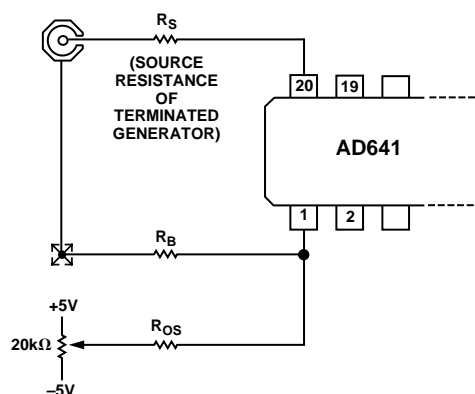

Figure 25. Optional Input Offset Voltage Nulling Circuit; See Text for Component Values
In most applications there will be no need to use any offset adjustment. However, a general offset trimming circuit is shown in Figure 25.  $R_S$  is the source resistance of the signal. *Note: 50  $\Omega$  rf sources may include a blocking capacitor and have no dc path to ground, or may be transformer coupled and have a near zero resistance to ground.* Determine whether the source resistance is zero, 25  $\Omega$  or 50  $\Omega$  (with the generator terminated in 50  $\Omega$ ) to find the correct value of bias compensating resistor,  $R_B$ , which should optimally be equal to  $R_S$ , unless  $R_S = 0$ , in which case use  $R_B = 5$   $\Omega$ . The value of  $R_{OS}$  should be set to 20,000  $R_B$  to provide a  $\pm 250$   $\mu\text{V}$  trim range. To null the offset, set the source voltage to zero and use a DVM to observe the logarithmic output voltage. Recall that the LOG OUT current of the AD641 exhibits an *absolute value response* to the input voltage, so the offset potentiometer is adjusted to the point where the logarithmic output "turns around" (reaches a local maximum or minimum).
R4 is identical to R2, and in shunt with R3 ( $270\ \Omega$  thin film) forms a  $27\ \Omega$  resistor with the same TC as the output resistance of the attenuator. By connecting Pin 1 to ATN LOW (Pin 2) this resistance minimizes the offset caused by bias currents. The offset nulling scheme shown in Figure 25 may still be used, with the external resistor  $R_B$  omitted and  $R_{OS} = 500\text{ k}\Omega$ . Offset stability is improved because the compensating voltage introduced at Pin 20 is now PTAT. Drifts of under  $1\ \mu\text{V}/^\circ\text{C}$  (referred to Pins 1 and 20) can be maintained using the attenuator.
Cascaded AD641s can be used in dc applications, but input offset voltage will limit the dynamic range. The dc intercept is 6  $\mu$ V. *The offset should not be confused with the intercept*, which is found by *extrapolating* the transfer function from its central “log linear” region. This can be understood by referring to Equation (1) and noting that an input offset is simply additive to the value of  $V_{IN}$  in the numerator of the logarithmic argument; it does not affect the denominator (or intercept)  $V_X$ . In dc coupled applications of wide dynamic range, special precautions must be taken to null the input offset and minimize drift due to input bias offset. It is recommended that the input attenuator be used, providing a practical input range of  $-74$  dBV ( $\pm 200$   $\mu$ V dc) to  $+6$  dBV ( $\pm 2$  V dc) when nulled using the adjustment circuit shown in Figure 25.